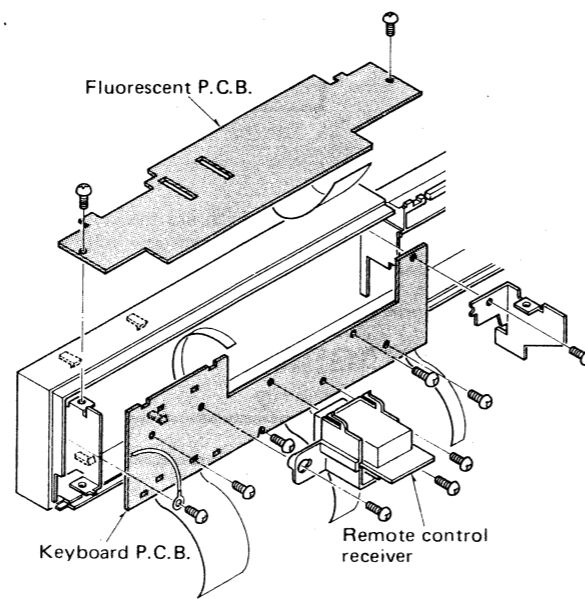

Fig. 28
3. Remove the remote-control receiver. [Fig. 28]
4. Remove the P.C.B. setscrews. [Fig. 28]